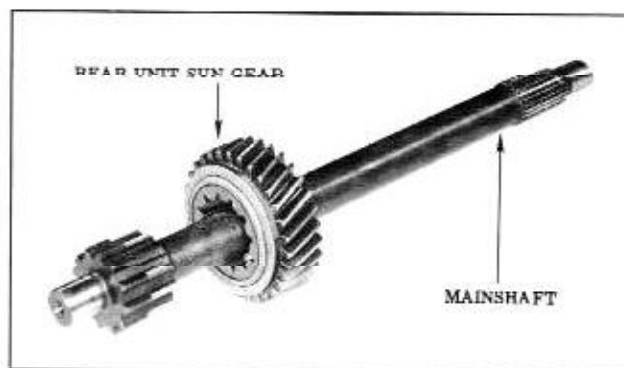

Figure 3-42 Sun Gear Removal
12. Remove sun gear from main shaft. (Fig. 3-42)